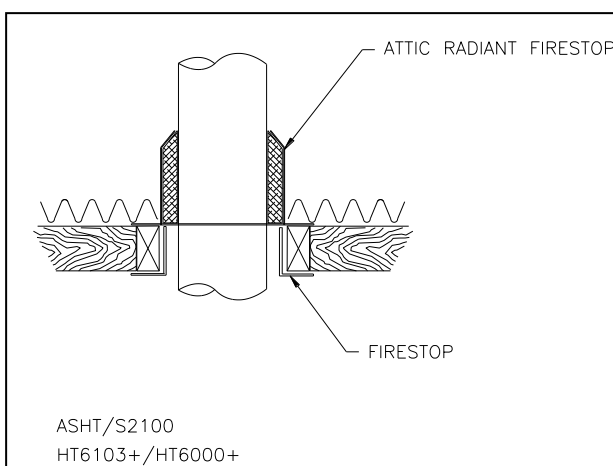
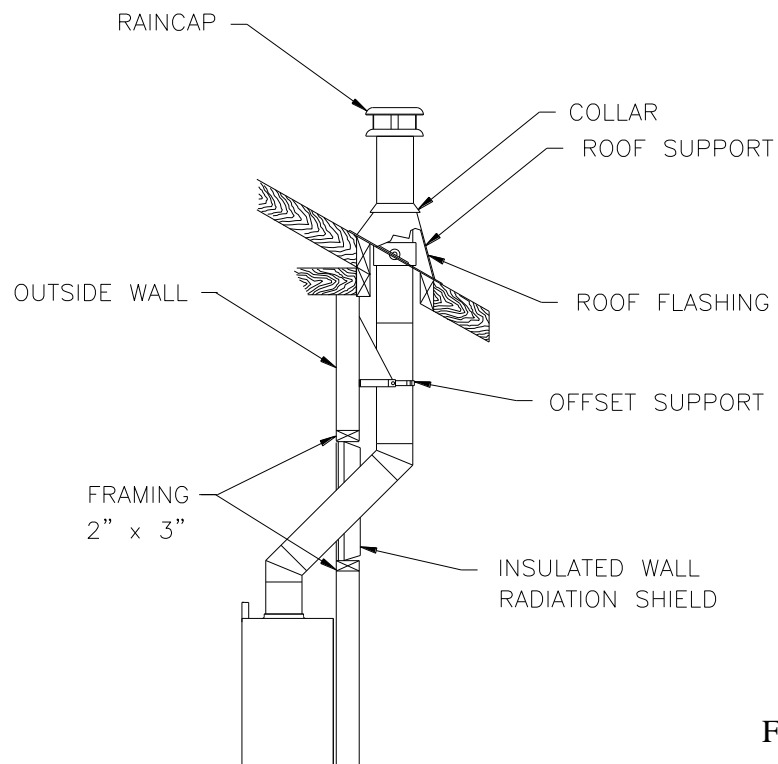

Figure 28
Figure 34
From below, install a firestop in each ceiling/floor separation through which the chimney will pass. At the attic level, install an attic radiation shield from above. (figures 28 & 29).
1. Install the first elbow; turn it in the required direction. Fasten it to the chimney with the three (3) ½" (12 mm) metal screws provided with the elbow.
2. Install the necessary chimney lengths to achieve the required offset. Lock the chimney lengths together: it is recommended to use three (3) ½" (12 mm) screws. If the offset length is made of two (2) chimney lengths or more, use an offset support halfway up the offset. If penetrating a wall, install a wall radiation shield (see figures 34 & 35).
3. Use another elbow to turn the chimney vertically. Secure the elbow, using three (3) ½" (12 mm) screws (provided with the elbow).
5. From below, install a firestop (See figure 28).